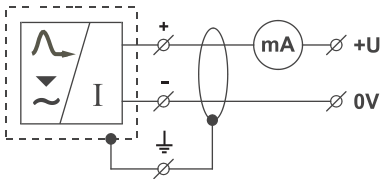
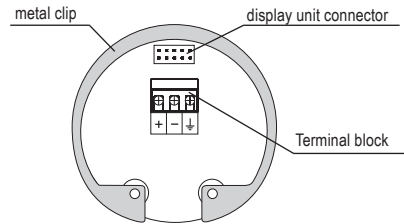

Fig. 31: Wiring diagram of the level meter with current output GRLM-70 \_ \_ \_ - I
Fig. 32: Inside view of screw terminals of the level meter with current output GRLM-70 \_ \_ \_ - I
5. Connect the cable to the screw terminals Fig. 32 or 34 according to the diagram in Fig. 31 or 33. Firmly tighten the terminals and the cable outlet. Tightening torque see. Technical parameters p. 57.
In the event of strong ambient electromagnetic interference, paralleling of conductors with power distribution, or for distribution to distances over 30 m, we recommend grounding the level meter (see above) and using a shielded cable. Ground the shielding of the cable on the side of the power supply, or the shielding is possible to connect only on inside pin of the level meter marked  $\overline{\text{E}}$  see fig. 32 and 34 (the shielding of the cable is always connected in a single location).